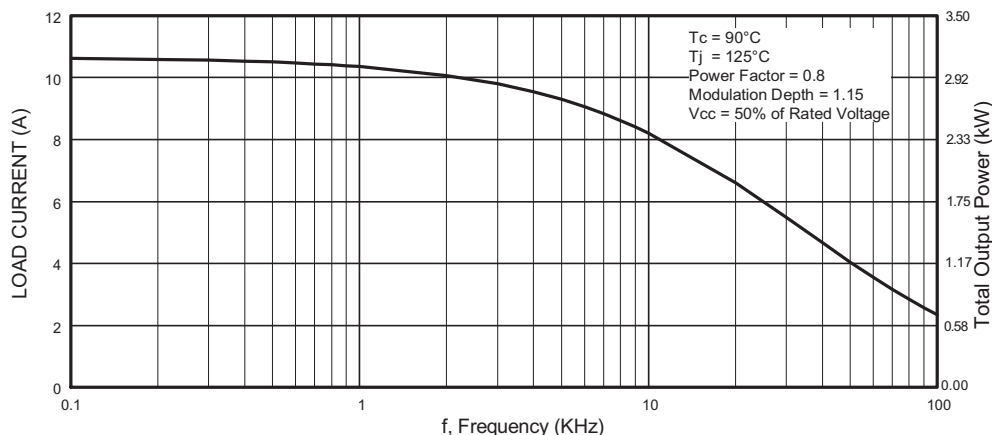

Fig. 1 - Typical Load Current vs. Frequency
Modulation depth (see fig. 1)	115 %
- Short circuit rated ultrafast: Optimized for high speed over 5.0 kHz (see fig. 1 for current vs. frequency curve), and short circuit rated to 10 μs at 125 $^{\circ}\text{C}$, $V_{GE} = 15\text{ V}$